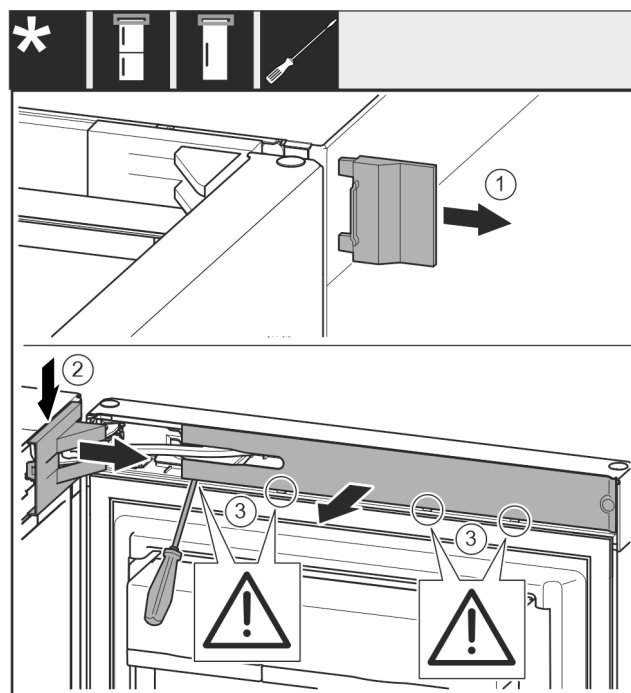

Fig. 8
- ▶ Remove the outer cover. *Fig. 8 (1)*
- ▶ Disengage and release the bearing bracket cover. Remove the bearing bracket cover. *Fig. 8 (2)*
- ▶ Unlatch the panel with a slotted screwdriver and swivel it to one side. *Fig. 8 (3)*